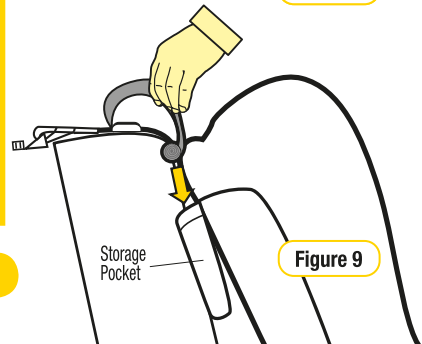

Figure 9
**Step 7:** Store any excess webbing, from the top tether strap, in the storage pocket provided on the restraint (refer to Figure 9).
After correctly installing the restraint in your car, roll up and place any excess tether strap in the storage pocket provided (refer Figure 9).